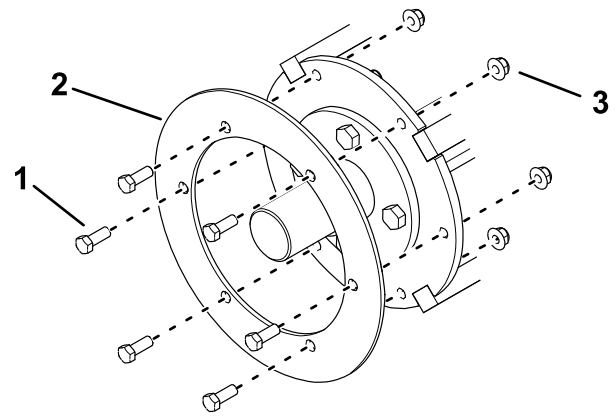

Figure 13
2. Locknut—1/2 inch (4)
3. Spring washer (4)
4. Bolt—1/2 x 1-1/4 inch (4)
8. Remove the 6 bolts, 6 nuts, and the retaining plate (Figure 13).
3. Install the retaining plate (Figure 13).